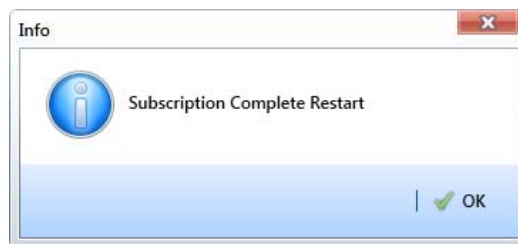

Figure 16-7. Subscription Complete Restart
- 6 Click  **OK** when the message *Subscription Complete Restart* displays (Figure 16-7).